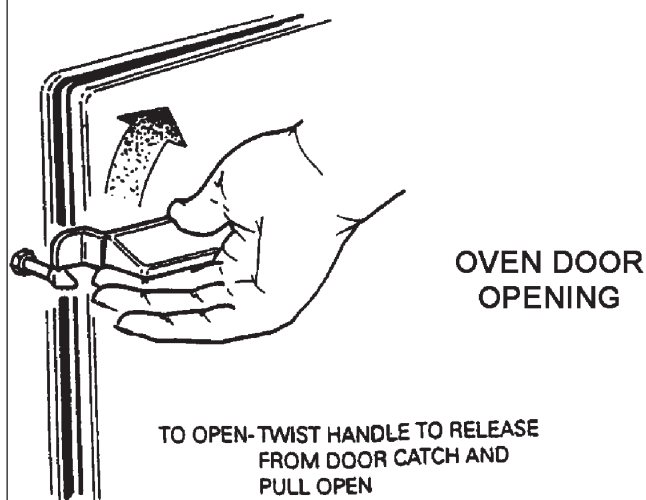

Fig. 6
OVEN DOOR OPERATION - SEE FIG. 6
- With the fire established open the firebox door and fill firebox with fuel. Check secondary air slide setting (Fig. 6). **Close and lock the firebox door.** Push the flue chamber damper back to position which has been found to give best results. Set spinwheel control to give desired burning rate.